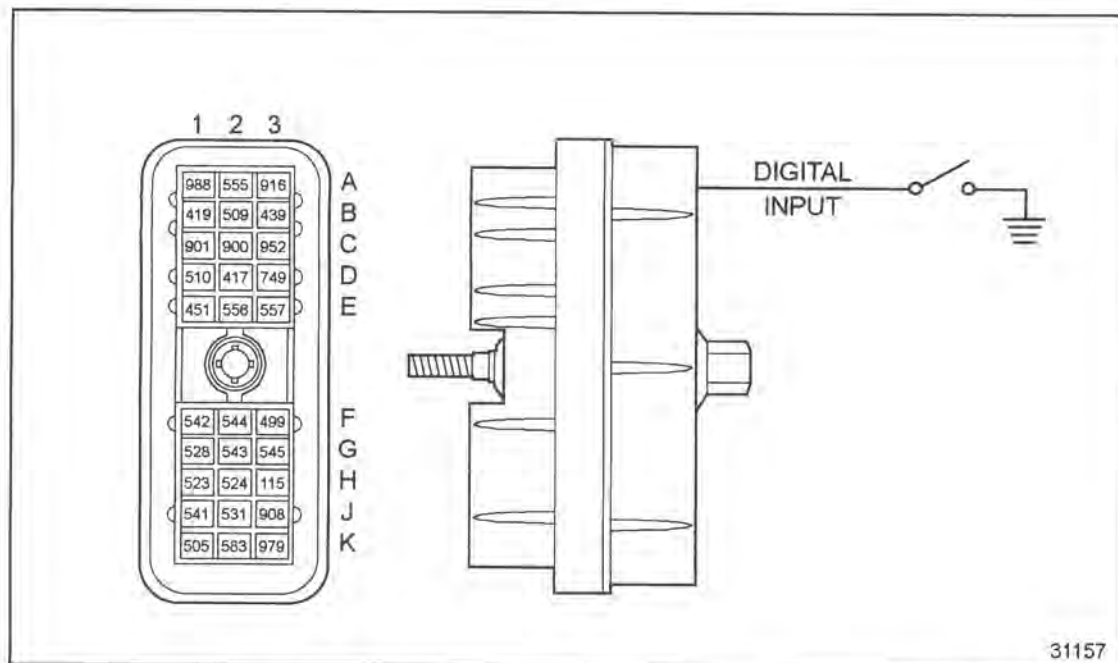

Figure 10-9 ECM Vehicle Interface Harness Connector
5. Observe the status when the feature is active (or supposed to be active). See Figure 10-9.